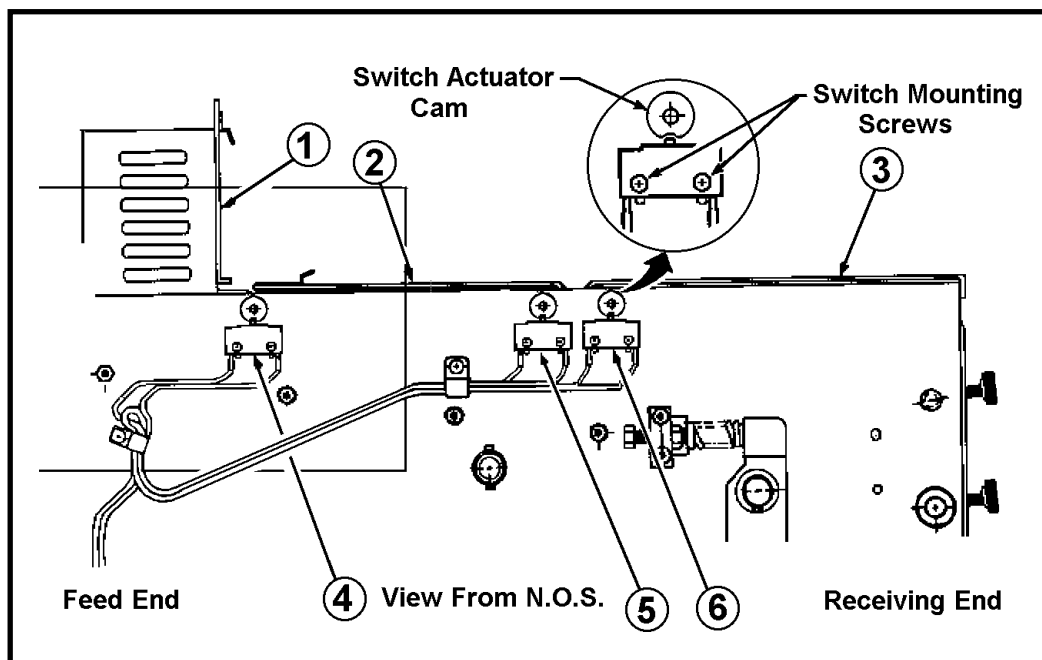

Figure 67 - Chain Delivery Guard Microswitch Adjustment
With Guards (1), (2) and (3) in the closed position as shown, Switches (4), (5) and (6) must not be actuated by the Cams. Immediately after the Guards are lifted, the Switches must be actuated by the Cams (see Figure 67).